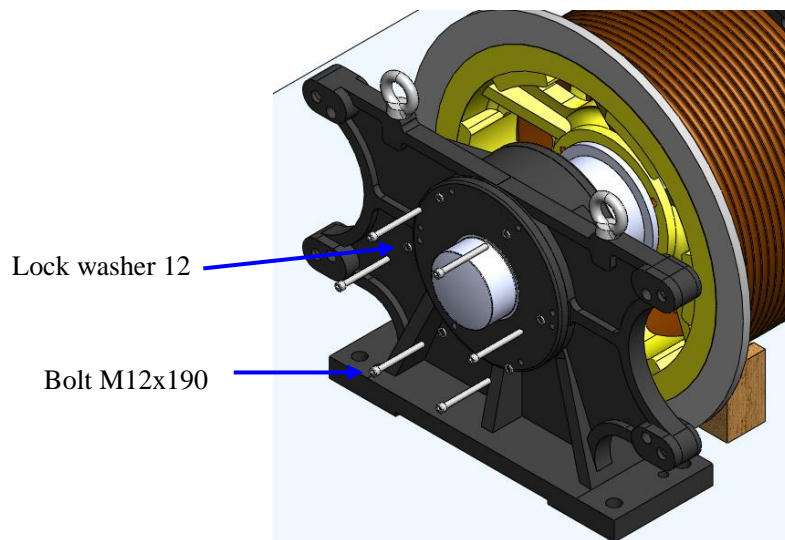

Figure 78: Remove M12x190 bolts
8. Loosen the bolts M12x190 (6 pieces) with lock washer12 with hex wrench (10mm), and take off the Cover 1. See Figures 78 and 79.